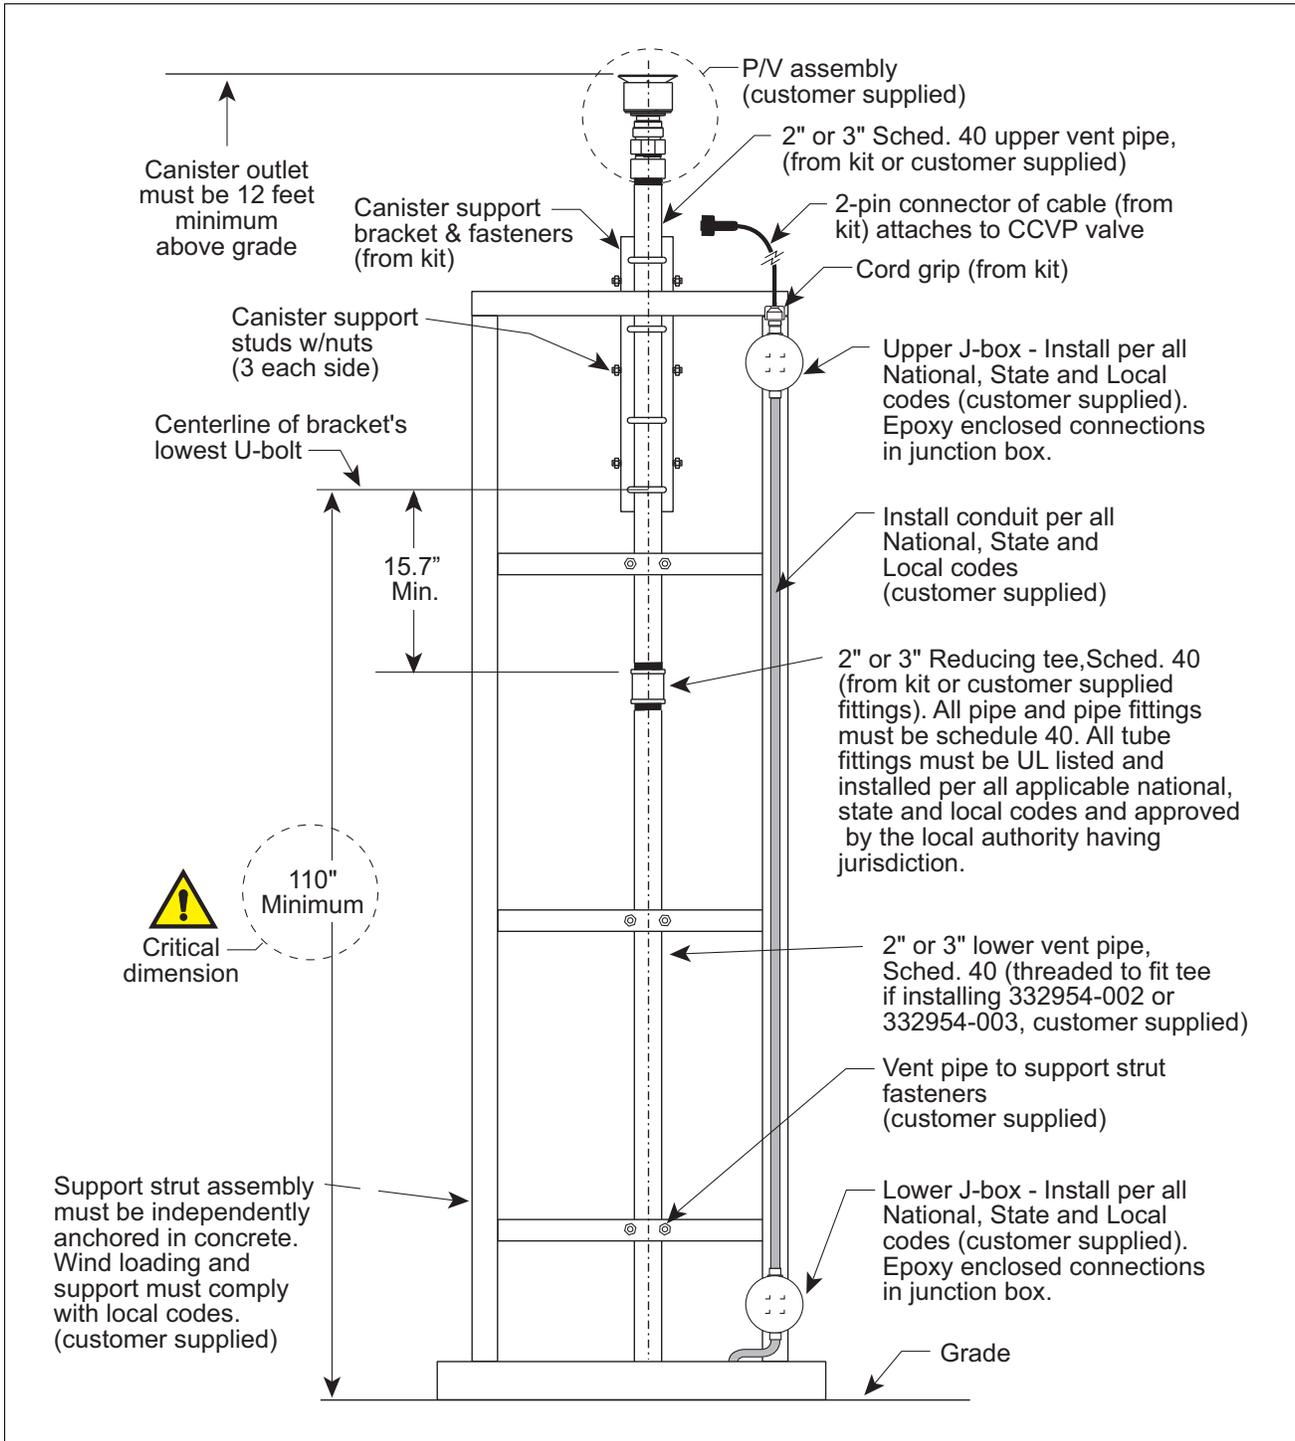

Figure 1. Typical direct wired installation example
6. **IMPORTANT! To assure that the canister outlet is 12 feet (minimum above grade, the CCVP mounting bracket must be located as shown in Figure 1 and the U-bolts tightly clamped to the vent pipe before mounting the canister.**
9. Install weather tight junction boxes (2 required) and conduit per all NEC, State and local codes (see example installation in Figure 1).